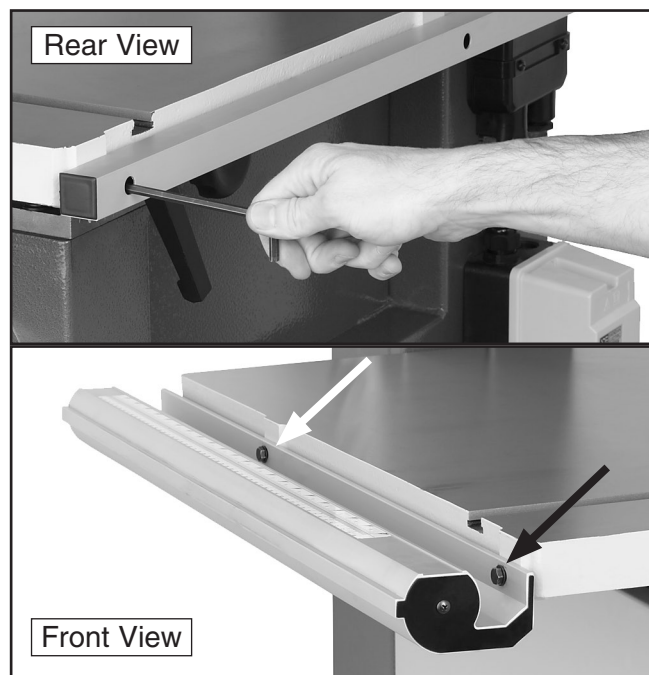

Figure 22. Rail installation.
1. Attach the back square tube to the table with the cap screws as shown in **Figure 22**.
2. Attach the front rail with the hex bolts, lock washers, and flat washers as shown in **Figure 22**.